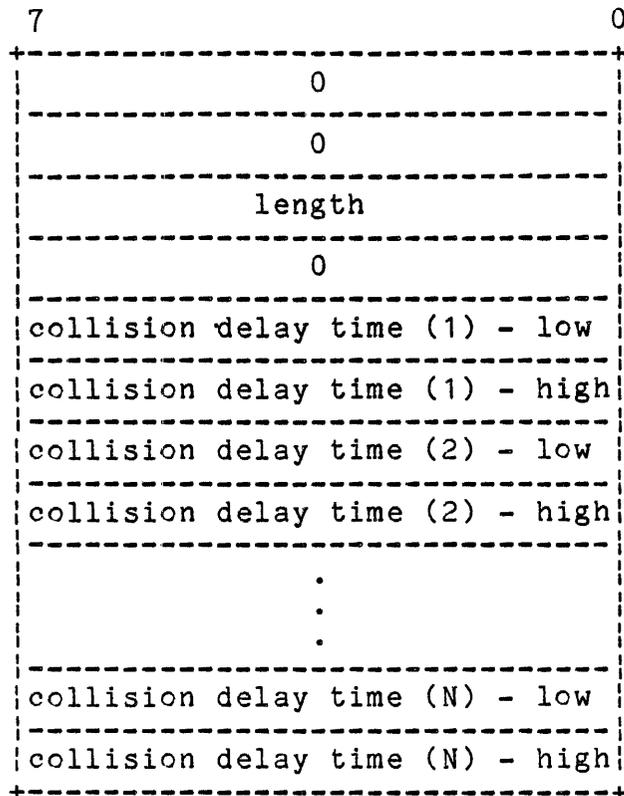

Figure 3-5. Collision Delay Times.
**Data Format:** Figure 3-5 shows the format of the status block returned by this command.